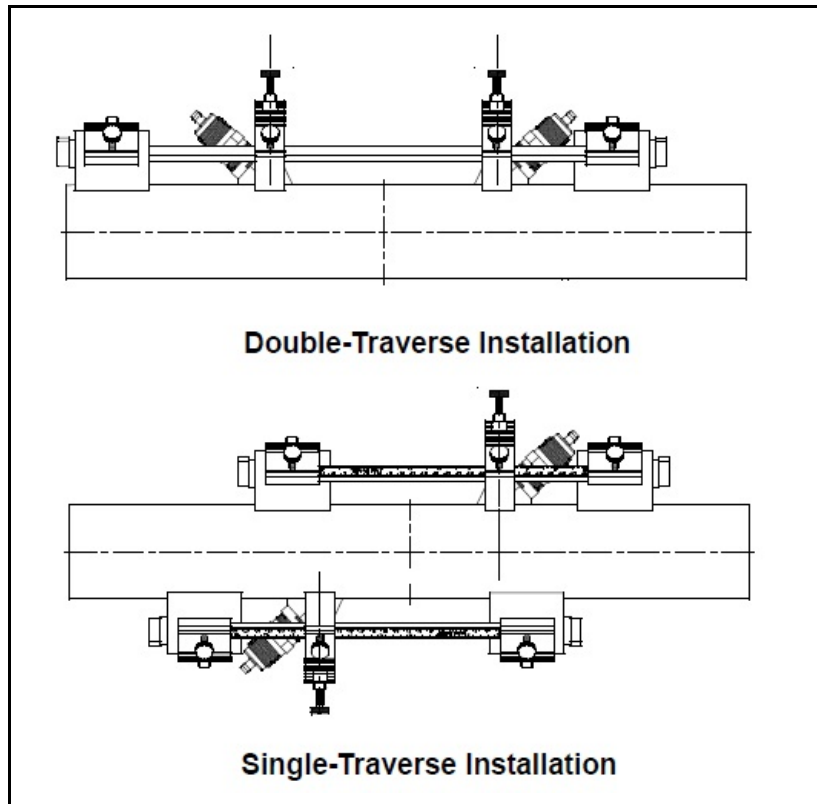

Figure 38: Completed MCF Installations with Transducers
5. Repeat Steps 1-4 to mount the remaining transducer in the other sub-assembly. See Figure 38 on the following page for completed typical MCF installations.